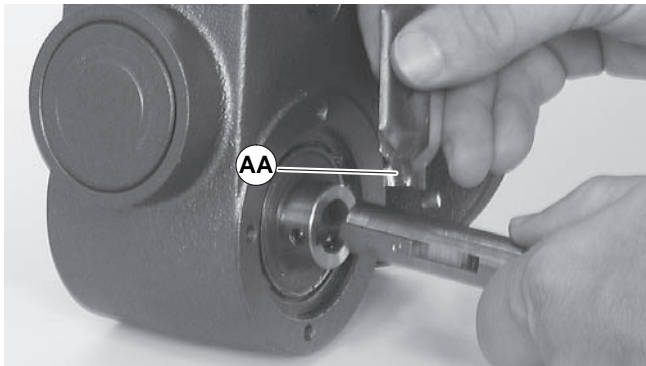

Figure 21
10. Apply grease (Figure 21, item AA) to shaft.